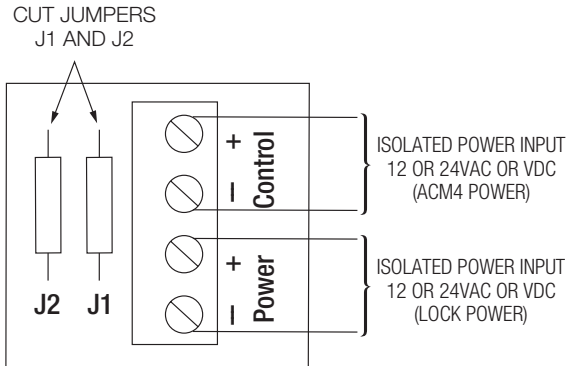

Fig. 3
5. **Fire Alarm Interface options** (Figs. 3 through 7, pg. 6):
Connect the positive (+) and negative (-) from the FACP signaling circuit output to the terminals marked [+ INP -]. Connect the FACP EOL to the terminals marked [+ RET -] (polarity is referenced in an alarm condition). Jumper J3 must be cut (Fig. 3, pg. 6).
FACP INTERFACE T, + INPUT -	Fire Alarm Interface trigger input from FACP. Trigger inputs can be normally open, normally closed from an FACP output circuit (Fig. 3 through 7, pg. 6-7).